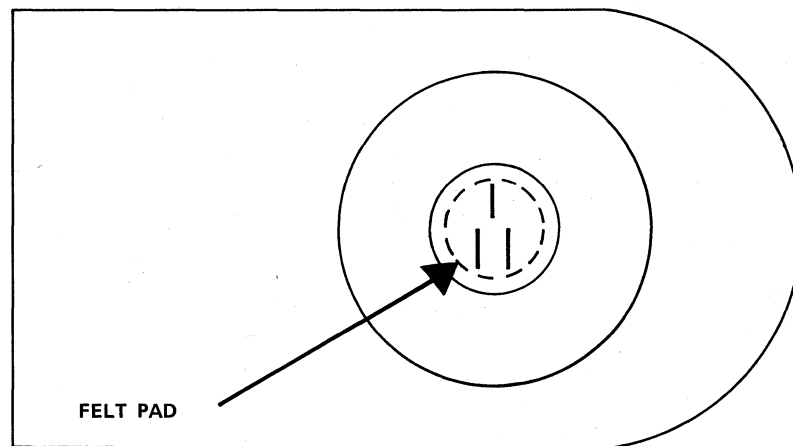

Figure 5-28
5.13.9 Visually align the felt pad on the arm with the head (see Figure 5-28).
5.13.12 Visually check to ensure that the felt pad clears the disk when the front door is opened (see Figure 5-28).
- 5.14.6 With a Phillips screwdriver, reinstall the three (3) mounting screws and their flat washers that attach the Module Assembly to the chassis (see Figure 5-28).